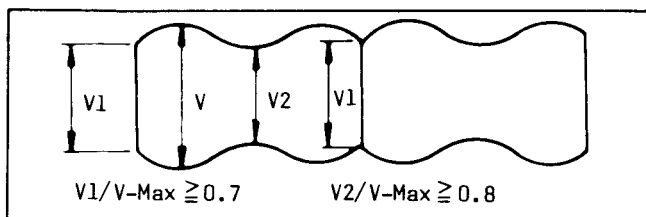

Fig. M21
- (1) Set the tracking control to the fixed (neutral) position by pushing both of the tracking control Up/Down Switches, on the Main C.B.A., in at the same time. Connect the oscilloscope to TP3501 on the Main C.B.A. Use TP2001 as a trigger.
- (2) Play back the monoscope portion of the Alignment Tape and confirm that RF envelope appears, as in Fig. M21.
- (3) If adjustment is required, loosen 2 Black Screws (D) and then slowly move the A/C Head Base back and forth using a screwdriver so that the envelope is at a maximum.